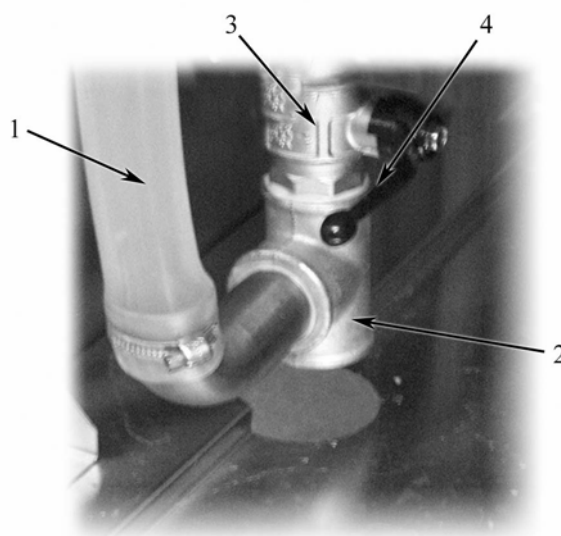

Fig. 2
First of all, check the drain valve (item 4 in Fig. 2) is closed.
Turn the lever (item 4 in Fig. 2) up to open the drain valve.